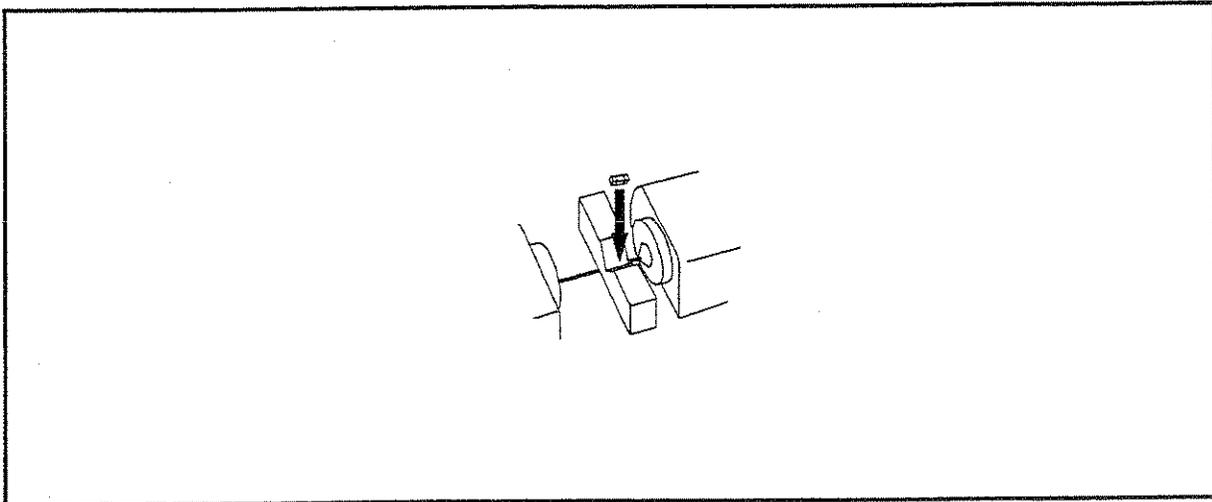

Figure 6-2. Chip Capacitor Binding
7. Clip the capacitor to the HP 16339A (see Figure 6-2), then close the top cover.